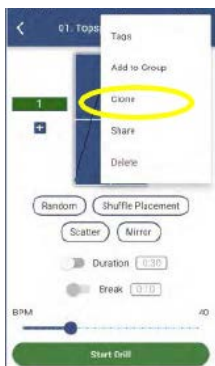

Figure 3-32
4. A drop-down menu will be displayed with 5 choices, one of them being Clone. (Figure 3-32)